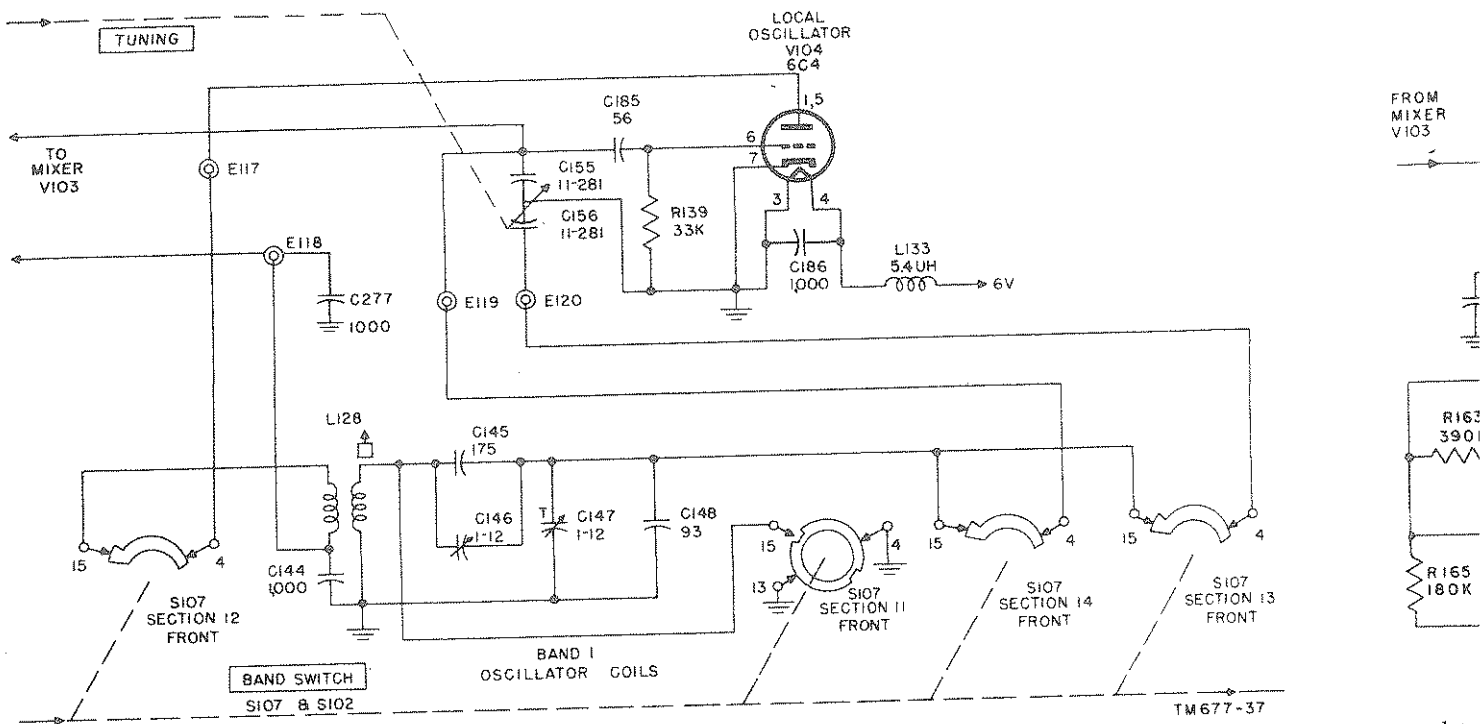

Figure 37. Radio Receiver R-395/PRD-1, functional diagram of local oscillator.
74. Local Oscillator (fig. 37)